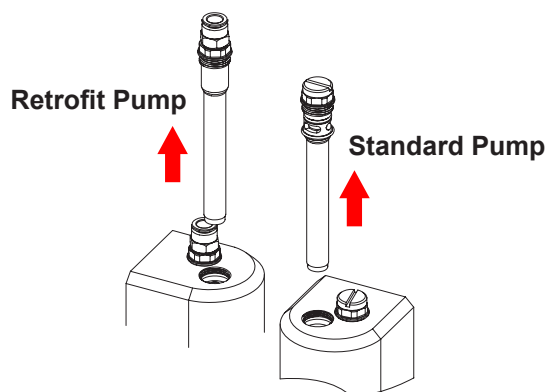

Figure 15 Loosening the Fluidizing Tubes
2. See Figure 15. Loosen the fluidizing tube access plug and pull the fluidizing tube straight out of the pump body.